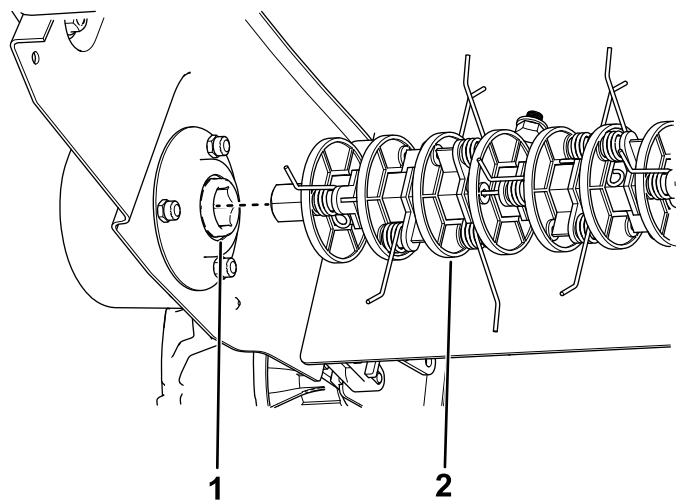

Figure 20
4. Slide the other end of the shaft assembly out of the drive and replace with the desired shaft assembly (Figure 20).